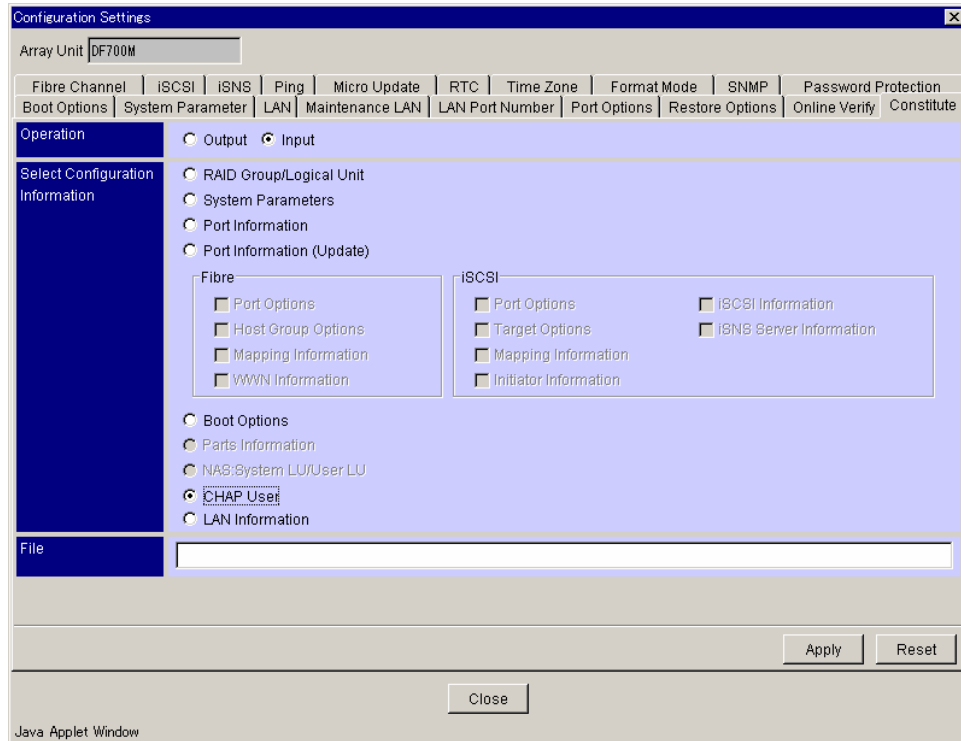

Figure 9.36 Configuration Settings - CHAP User (input)
2. Click the **Constitute** tab. See Figure 9.36.